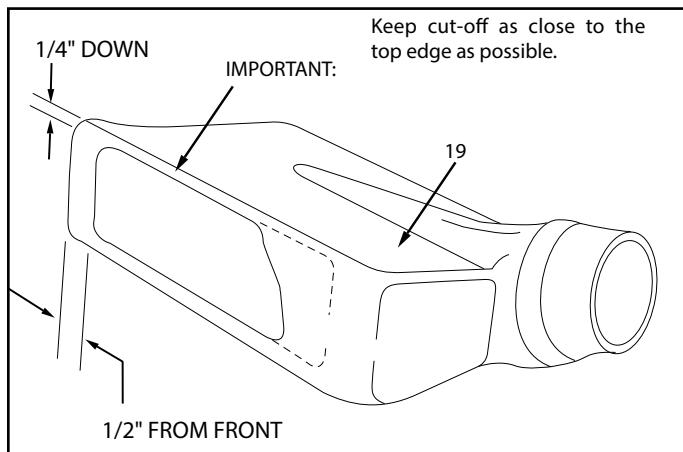

FIGURE 15
- Tape the template to the face of the adapter, about 1/2" from front and 1/4" down from top for deeper decks. For shallow decks, position template low enough that adapter will not extend below bottom of deck. Mark outline of template on face of adapter using white crayon, nail or scribe. Drill a starting hole inside the outline, then use a saber saw or key hole saw to cut out the opening. See figure 15.